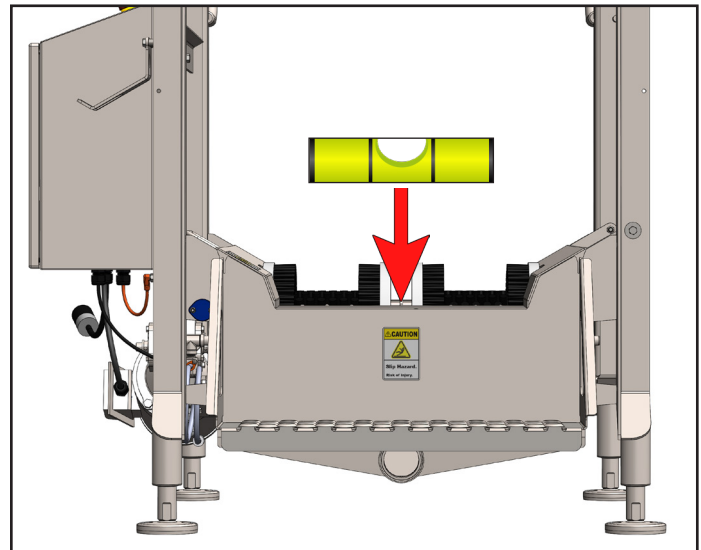

Fig. 5.1: Level and stabilize unit using level at each end of tub
3. Use a level to make sure the unit is stable and leveled at each end of the tub [Figure 5.1].